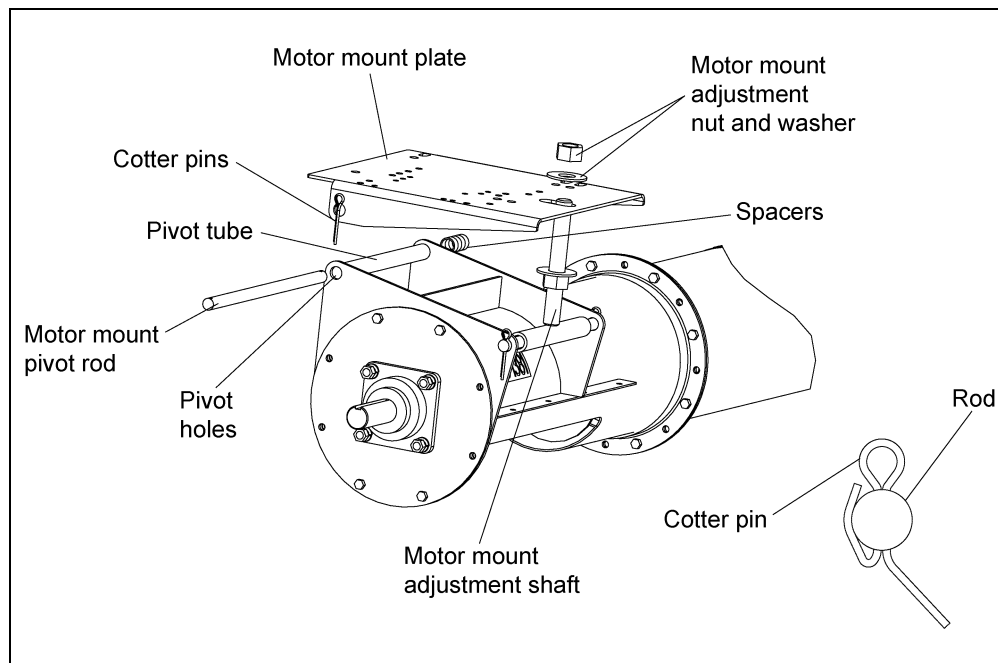

Figure 4K
- A. Secure one (1) of the motor mount adjustment nuts and one (1) the motor mount adjustment washers approximately 3/4" of the way down the motor mount adjuster's threaded shaft.
- B. Once the nut and washer is secure, slip the motor mount plate over the adjuster and align the pivot holes with the pivot tube. *(See Figure 4K.)*